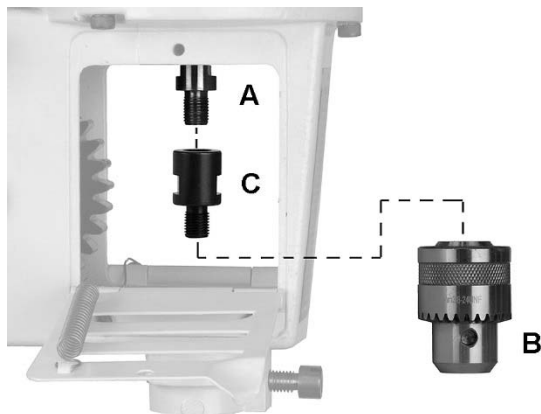

Figure 10-5
1. Open side door, and place a 10mm wrench on flat indents of motor spindle (A, Figure 10-5).
2. Insert chuck key into hole to use as leverage to unscrew chuck (B, Figure 10-5) while holding spindle stationary. Remove chuck from spindle.
3. Thread adaptor (C, Figure 10-5) onto motor spindle (A, Figure 10-5). Tighten using 10mm and 14mm wrenches respectively on flat sides of motor spindle and adaptor.